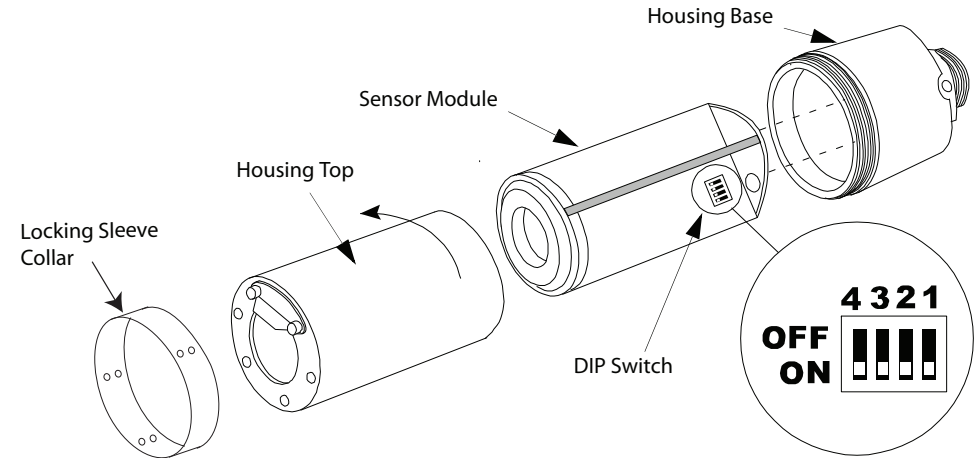

Figure 5. DIP Switch Location
3. Slide a DIP Switch to the ON or OFF position. Refer to Figure 5 and Table 4 for instructions.
The Junction Box (Relay only) has a two-position DIP Switch to define the Coil and Latch Status for the Fire Relay. Refer to Figure 5. DIP Switch Location for DIP Switch location.